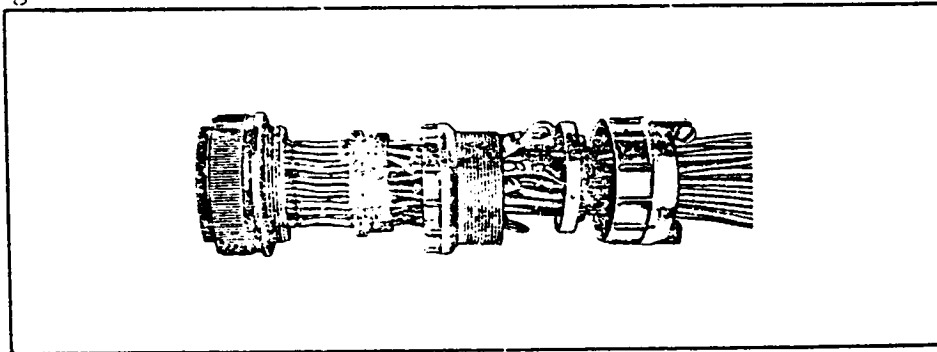

Figure 17
b. Install the clamping nut, sleeve, back shell, and grommet as shown in figure 17.